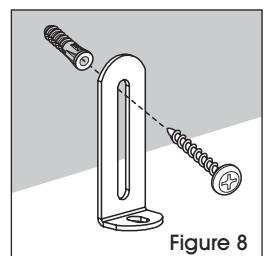

Figure 8
4. Insert 1 $\frac{1}{4}$ " screws through L-Brackets into wall anchors. Secure, but don't overtighten. (See Figure 8)